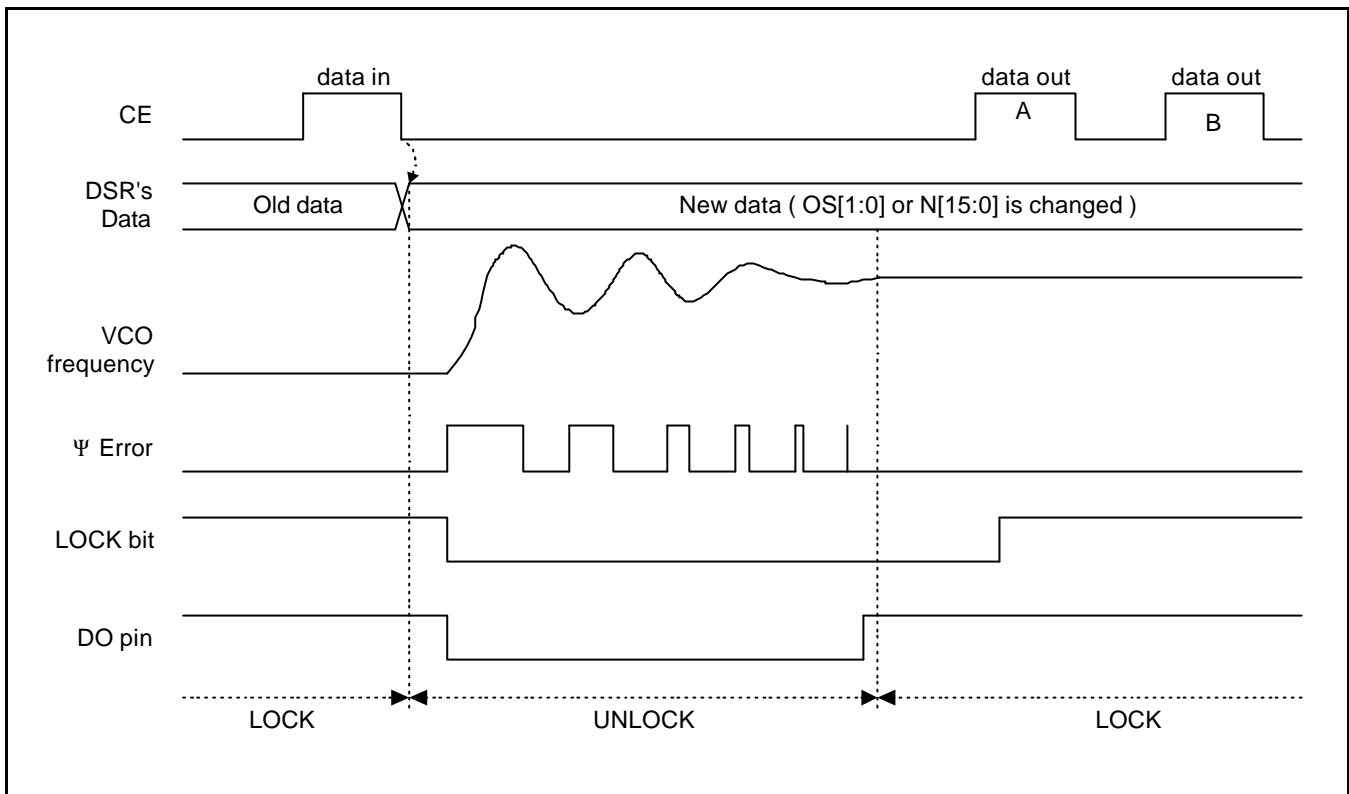

Figure. 14 Lock detection timing diagram
- ◆ LOCK bit in serial data shows UNLOCK because VCO frequency isn't stable (Figure. 14 A)
→ wait at least several cycle and check LOCK again(Figure. 14 B)